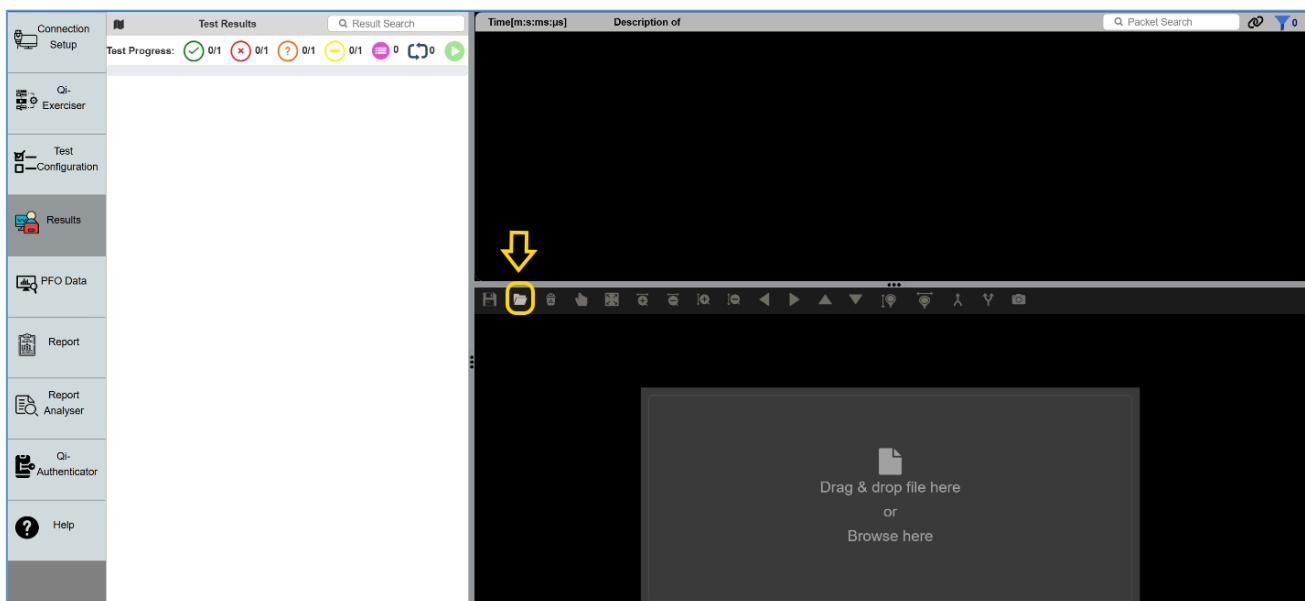

FIGURE 8.64: LOAD TRACE FILE BUTTON
1. In the Results screen, click on the **Load trace file**  button as indicated in Figure 8.64 below.